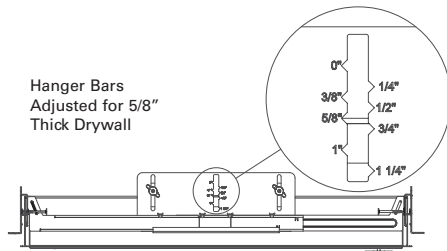

Figure 4
- Adjust the fixture to accommodate the thickness of drywall, plaster, or ceiling tile to be used. The notches and markings on the hanger bar holders correspond to the material thickness (See Figure 4).